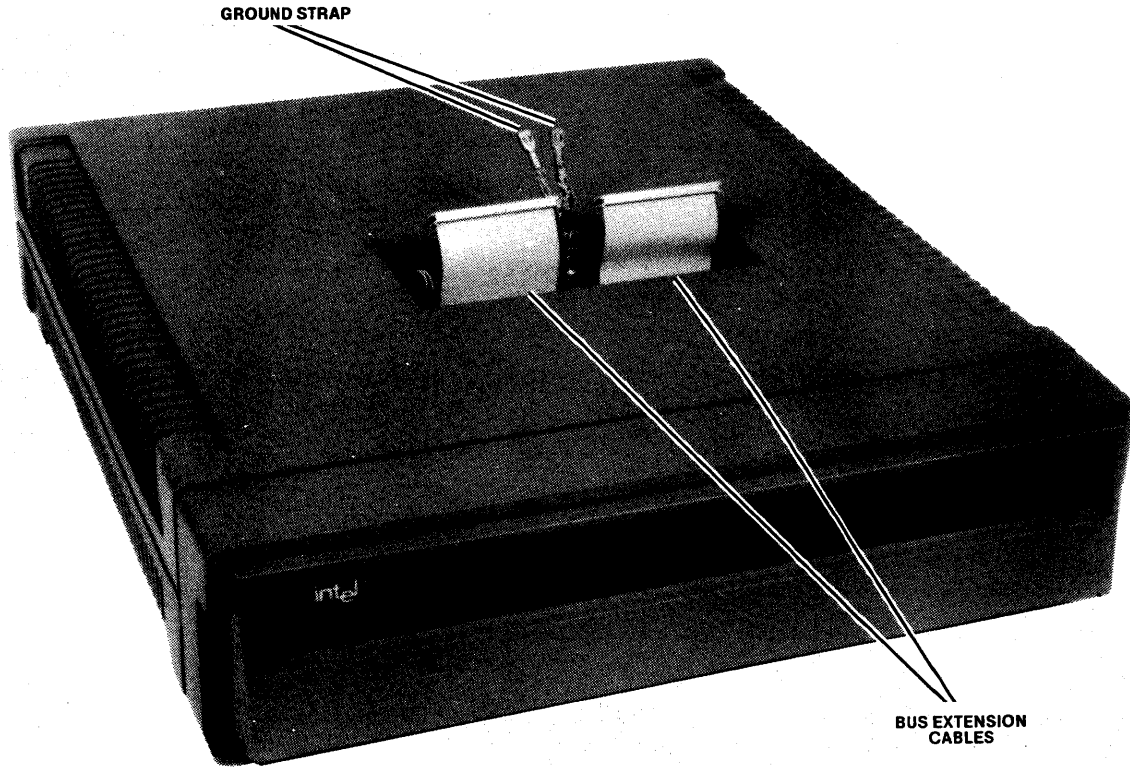

Figure 5-5. Expansion Chassis Cable Port Details
- j. Using supplied hardware, install ground strap on expansion chassis as shown in figure 5-5. Connect the two bus extension cables to connectors inside expansion chassis cable port.
- r. Using supplied hardware, install ground strap on expansion chassis as shown in figure 5-5. Connect the two bus extension cables to connectors inside expansion chassis cable port.